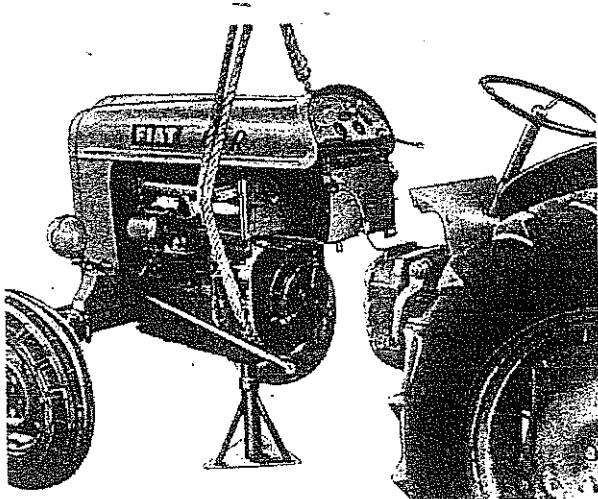

Fig. 83. - Removal of engine, with front axle.
- The engine, with the front axle (Fig. 83).